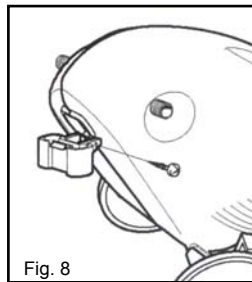

Fig. 8
8. To attach the front support to the pressure washer unit, place it under the front of the unit in the mark provided. Push it in until it snaps into place. Then secure it to the pressure washer with the screw (1) provided. (Fig. 8)